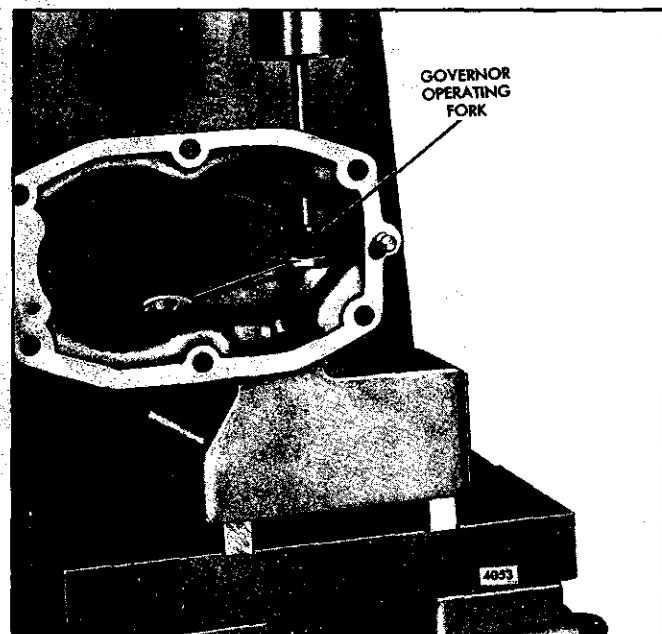

Fig. 9 - Removing Governor Operating Fork
9. Place an end wrench between the operating fork and the governor housing; also place a rod on the end of the operating shaft and press the shaft out of the fork (Fig. 9).